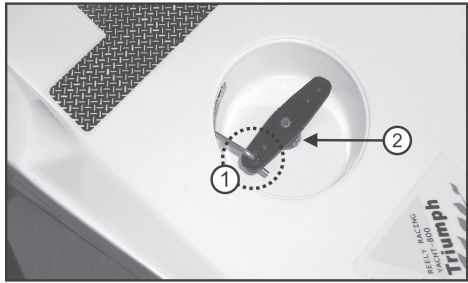

Figure 3c
Attach the „Z“ of the linkage rod to the rudder linkage lever (figure 3c, item 1).
Place the rudder linkage lever on the rudder linkage as shown in figure 3c.
Attach the rudder linkage lever to the rudder rods with a shortened hexagon socket wrench (figure 3c, item 2).